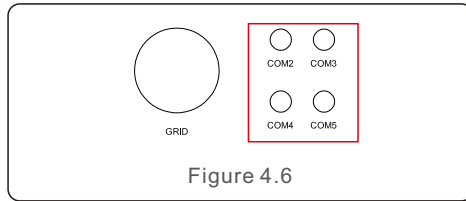

Figure 4.6
b. Remove the cap nut from the waterproof cable glands labeled at the bottom of the inverter. Remove the plug from the fitting. (in Figure 4.6).